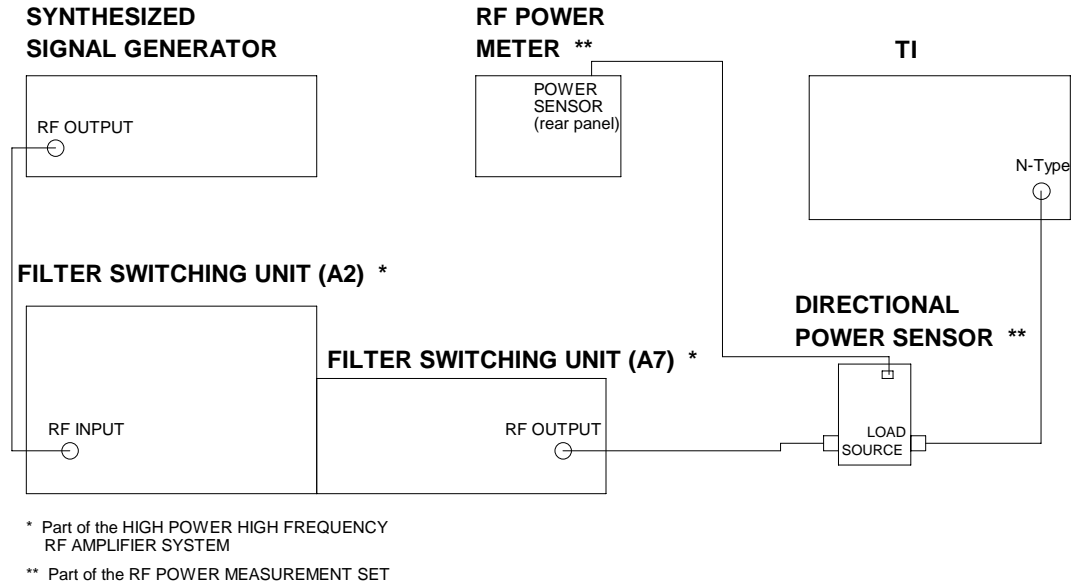

Figure 2.
4.4.1.15 Connect equipment as shown in Figure 2.